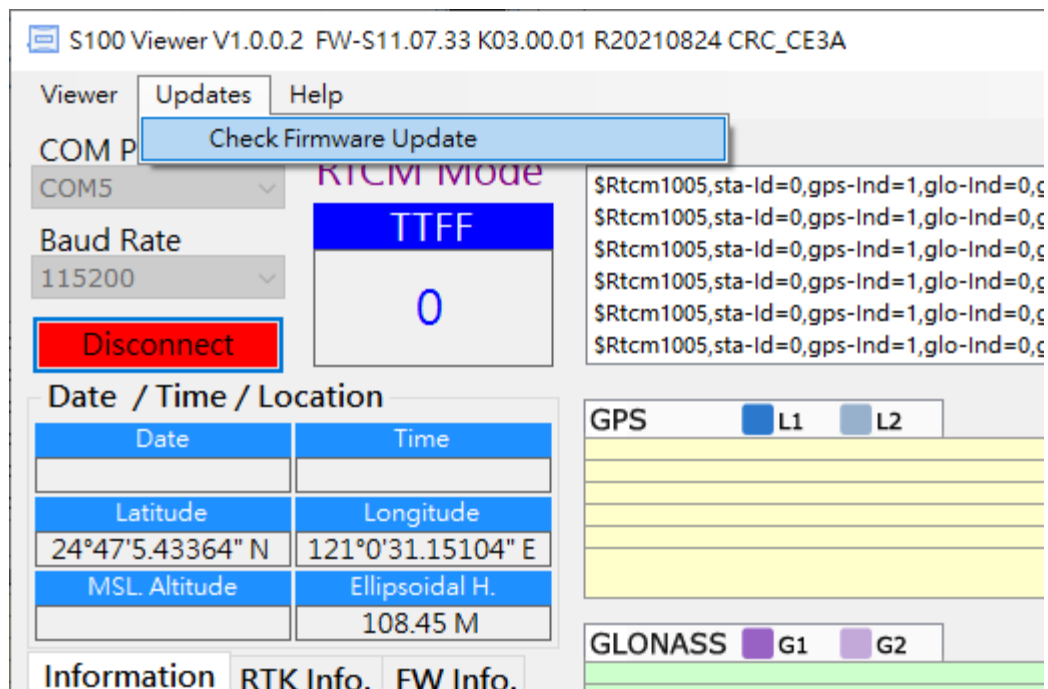

Figure 6-4
- From S100 Viewer “Updates” pull-down menu, select “Check Firmware Update”, then a message box showing “checking for updates” will pop up. See Figure 6-4.